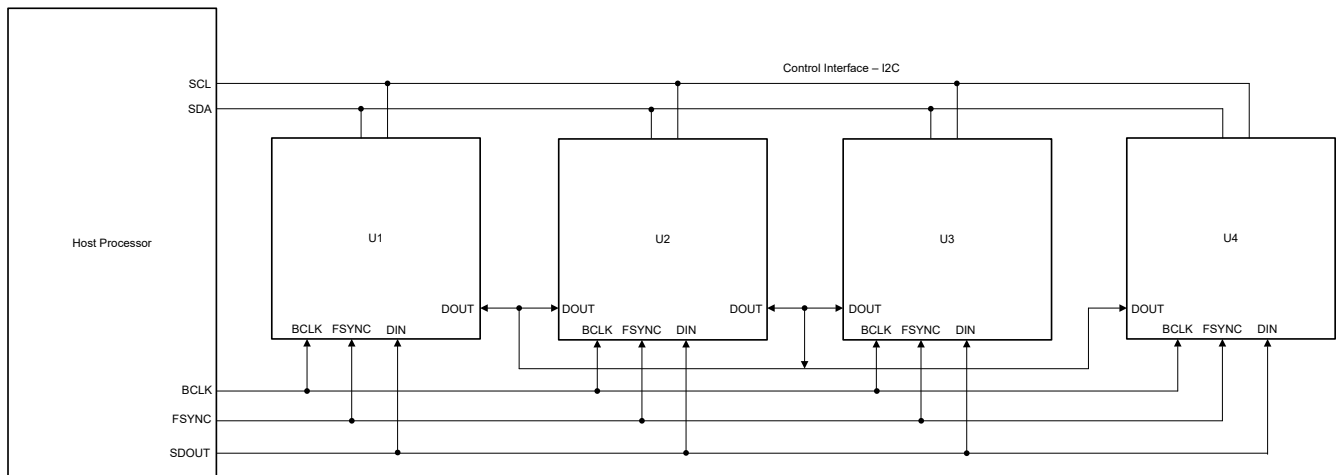

Figure 2-1. Playback Signal Path Configuration
For systems with up to 8 analog input channels, 8 digital input channels, or 16 digital microphone inputs routed through the DAC signal chain, four TA5xxx-Q1 devices can synchronize gain adjustments with the ICLA algorithm. TA5xxx-Q1 supports a shared I²C control bus and audio serial bus using a time-division multiplexed (TDM), Inter-IC Sound (I²S), or Left-justified (LJ) interface. Figure 2-1 shows a diagram of four TA(C/D)5XXX devices connected for ICLA with digital inputs on a shared audio serial bus.